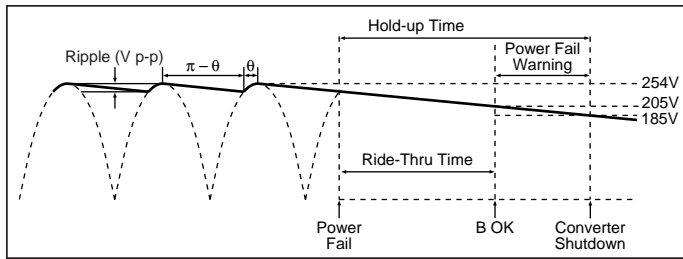
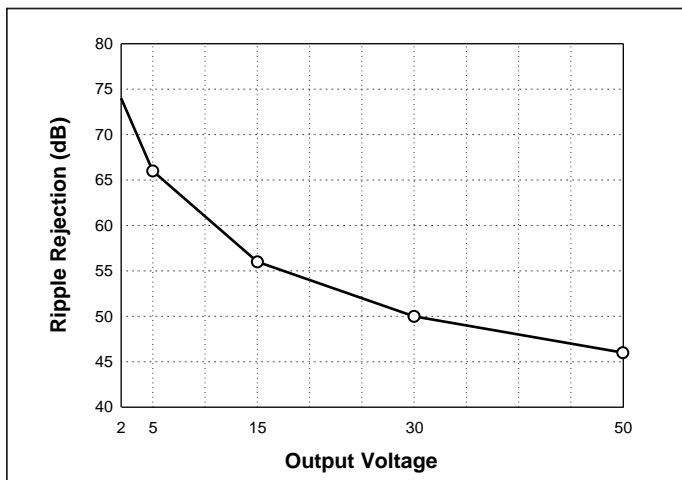

Figure 12—Hold-up time
Figure 16—Converter ripple rejection vs. output voltage
Hold-up Capacitors. Hold-up capacitor values should be determined according to output bus voltage ripple, power fail hold-up time, and ride-through time. (See Fig. 12). Many applications require the power supply to maintain output regulation during a momentary power failure of specified duration, i.e., the converters must hold-up or ride-through such an event while maintaining undisturbed output voltage regulation. Similarly, many of these same systems require notification of an impending power failure in order to allow time to perform an orderly shutdown.
The holdup time (Δt) is defined as the interval between power fail warning (B OK) and converter shutdown (EN) as illustrated in Fig. 12. The Bus-OK and Enable thresholds are 205V and 185V, respectively. A simplified relationship between hold-up time, operating power, and bus capacitance is obtained by inserting these constants:
For example, a converter whose output is 15V and nominal input is 300V will provide 56dB ripple rejection, i.e., 10V p-p of input ripple will produce 15mV p-p of output ripple. (See Fig. 16) Equation 3 is again used to determine the required capacitance. In this case, V_1 and V_2 are the instantaneous values of bus voltage at the peaks and valleys (see Fig. 12) of the ripple, respectively. The capacitors must hold up the bus voltage for the time interval (Δt) between peaks of the rectified line as given by:
DC-DC Converter. Fig. 16 is used to determine the ripple rejection of the DC-DC converter and indicates a ripple rejection of approximately 60 dB for a 12 Volt output. If the ripple on the bus voltage is 12Vac and the ripple rejection of the converter is 60 dB, the output ripple of the converter due to ripple on its input (primarily 120Hz) will be 12 mV p-p. Note that 2nd Generation converters have greater ripple rejection than either VI-200s or VI-J00s.